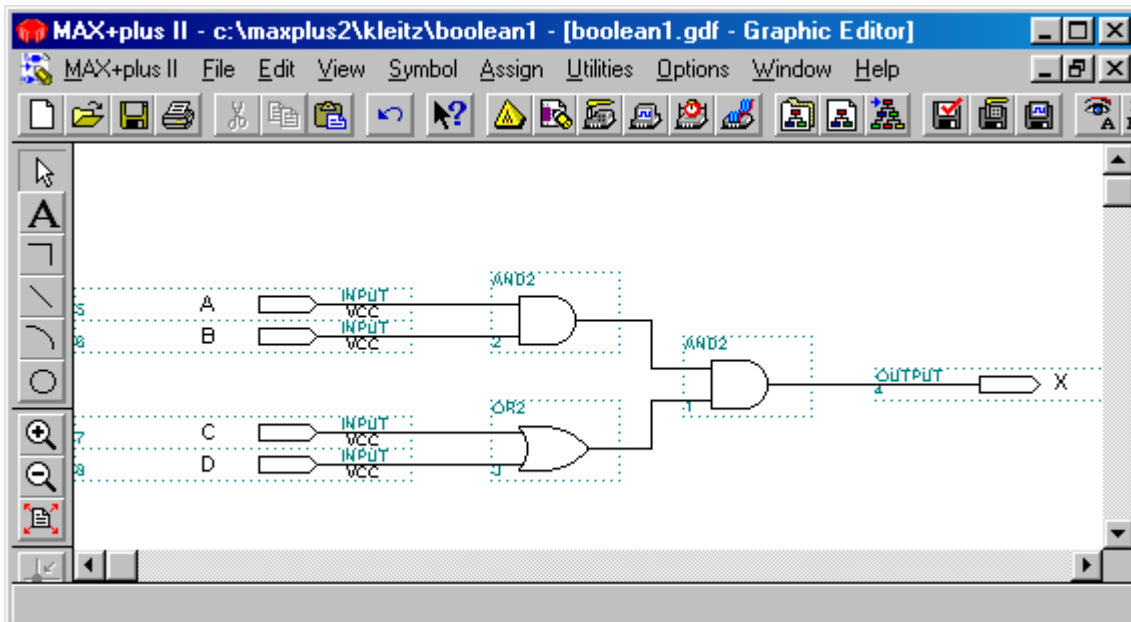

Figure E-6
8. Next you want to connect the symbols by drawing lines between them. First, use the left mouse button to drag the input/output pinstubs so they line them up with the appropriate logic gate. Then use the left button to draw a line from the end of each pinstub to the beginning of each corresponding logic gate input. If you make a mistake highlight the line and press the Del key. (See Figure E-6.)